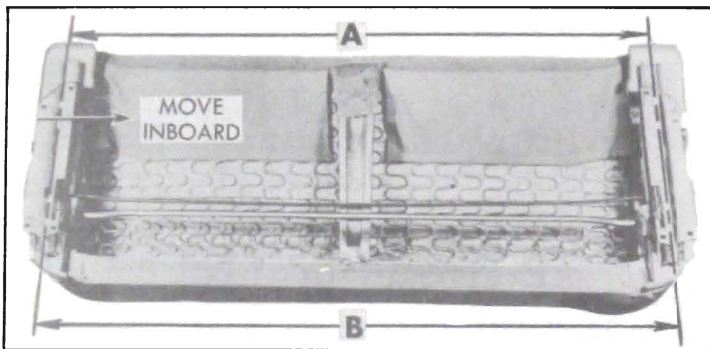

Figure 13-6—Alignment of Adjusters on Seat Bottom Frame
5. With rear end of left adjuster all the way inboard, measure the distances “A” and “B” between centerlines of adjusters at both ends. See figure 13-6. Measurements “A” and “B” must be equal.